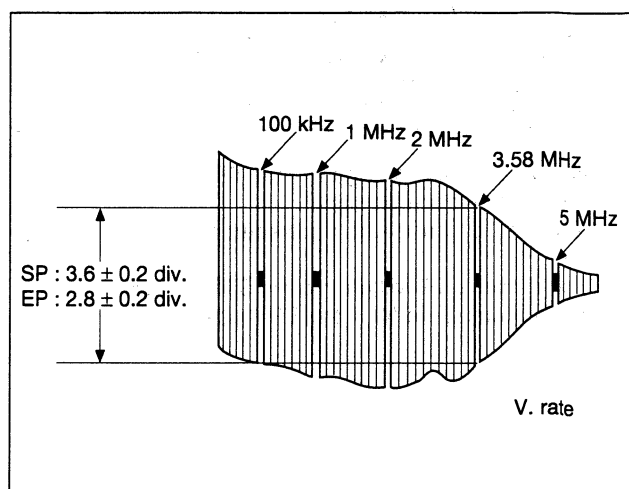

Fig. 3-3-7 S-VHS VIDEO EQ
- (1) Connect an oscilloscope to Y OUT TERMINAL and TP111 (negative slope).
- (2) Record a video sweep signal in S-VHS SP mode, then play it back.
- (3) Set EVR mode by pressing "K" button of the presetting unit more than 2 seconds.
- (4) Set "A : 3" by pressing 3 digit key of the remote controller.
- (5) When assuming the 100 KHz sweep signal marker on the bigger channel is four scales on the oscilloscope, adjust CH "▲" or "▼" button on the front panel or the 10-key remote control so that the 3.58 MHz is set at 3.6 ± 0.2 scale (-2 ± 0.5 dB) while observing Y OUT of the S output (See Fig. 3-3-7).
- (6) The EVR mode is canceled by pressing the "K" button after the adjustment, and the adjusted value is stored.
- (7) Also, it records and plays back the sweep signal in the EP mode.
- (8) Carry out the step (3) and (4).
- (9) When assuming the 100 kHz sweep signal marker on the bigger channel is four scales on the oscilloscope, adjust CH "▲" or "▼" button on the front panel or the 10-key remote control so that the 3.58 MHz is set at 2.8 ± 0.2 scale (-3 ± 0.5 dB) while observing Y OUT of the S output (See Fig. 3-3-7).